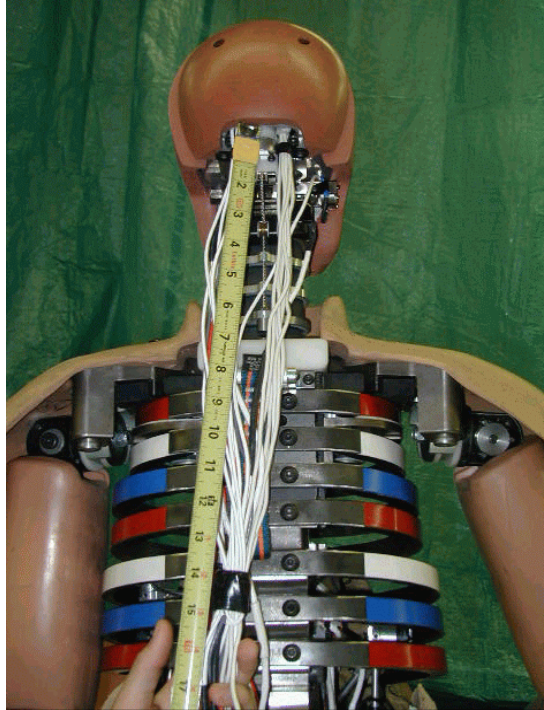

Figure 7.12- Measuring the wire bundle
15. Gather the wire bundle from the head and neck instrumentation (except the lower neck load cell wire). Holding the bundle together, measure 13.5" down along the wire bundle from the bottom of the head mounting plate. Centered at this point, wrap the wire bundle with electrical tape, as shown in **Figure 7.12**, to provide enough thickness to allow the Spine Wire Cover Assembly (T1TXM040) to hold it securely in place.